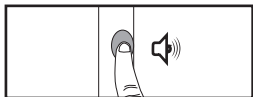

Figure 16.1; Press and Hold Programming Button
Press and hold THIS E-Wand's PROGRAMMING BUTTON ⑤ again until you hear a SINGLE BEEP (1) [Fig. 16.1]. You have now completed linking your E-Wands and have created a Twist Group.